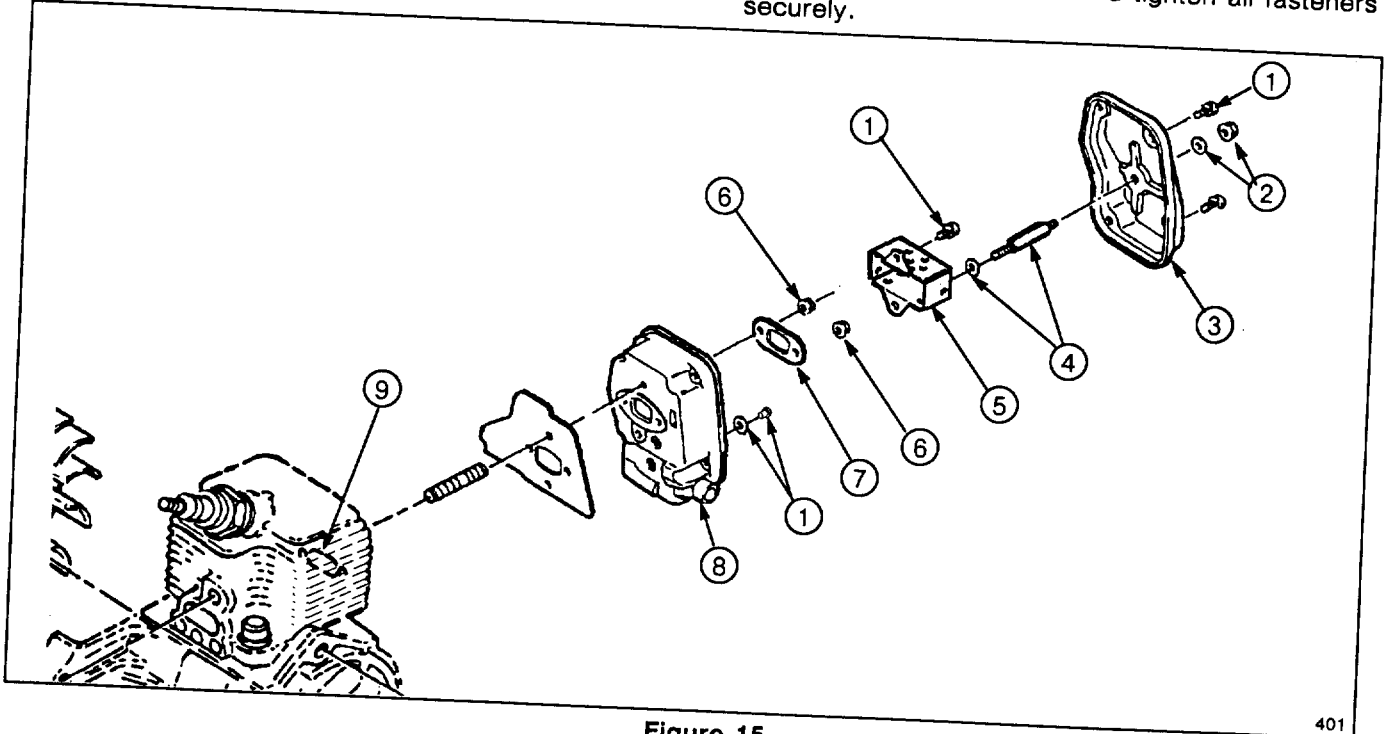

Figure 15
2. Remove four (4) screws, five (5) washers and flange nut from muffler cover (Fig. 15). Remove front muffler cover.
3. Remove spacer and washer securing bottom tab of baffle and screw and washer securing top tab of baffle to back muffler cover (Fig. 15). Lift off baffle.
4. Remove two (2) flange nuts securing plate to back muffler cover (Fig. 15). Lift off plate.
5. Remove screw and washer securing back cover of muffler to engine (Fig. 15). Lift off back cover.
6. Clean any carbon build-up from muffler port (Fig. 15).
7. Pull recoil starter slowly to rotate the engine crankshaft until the piston totally covers the exhaust port (Fig. 15). Clean the exhaust port area by using a clean, flat piece of hard wood. Remove all loose particles.